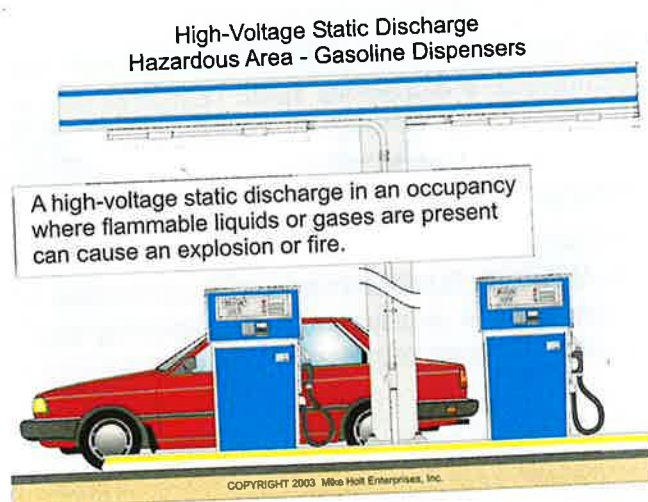

Figure 1-7
- Danger in an area where flammable or explosive liquids, gases, dusts, or fibers are present. **Figure 1-7**